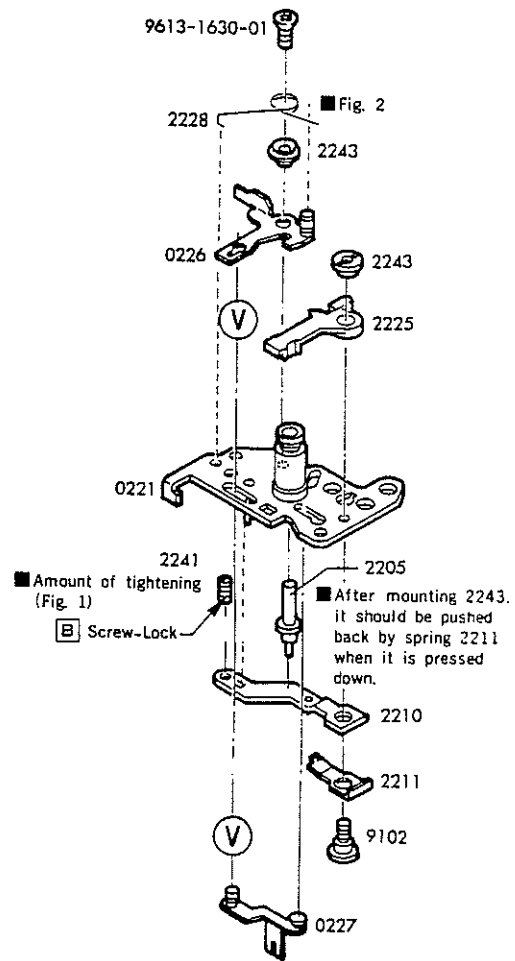

Fig. 1 Tightening of 2241
■ Fig. 1 4252, 4253 spring setting ■ Fig. 2 4254 spring setting